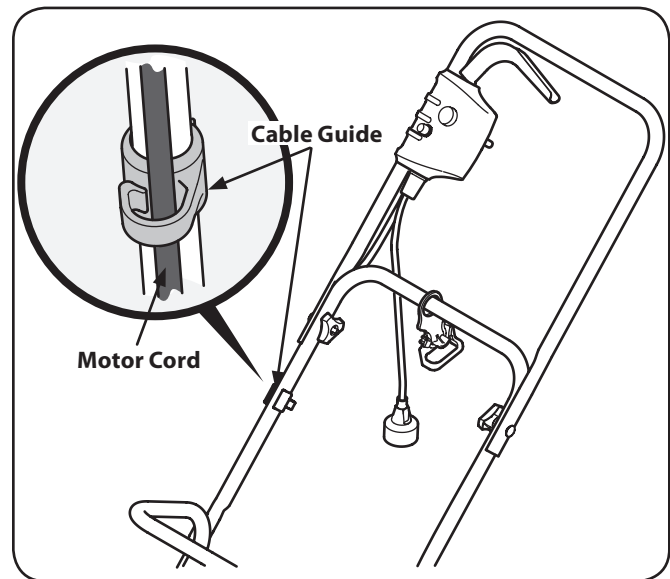

Figure 3-5
5. Secure motor cord to cable guide. See Figure 3-5.